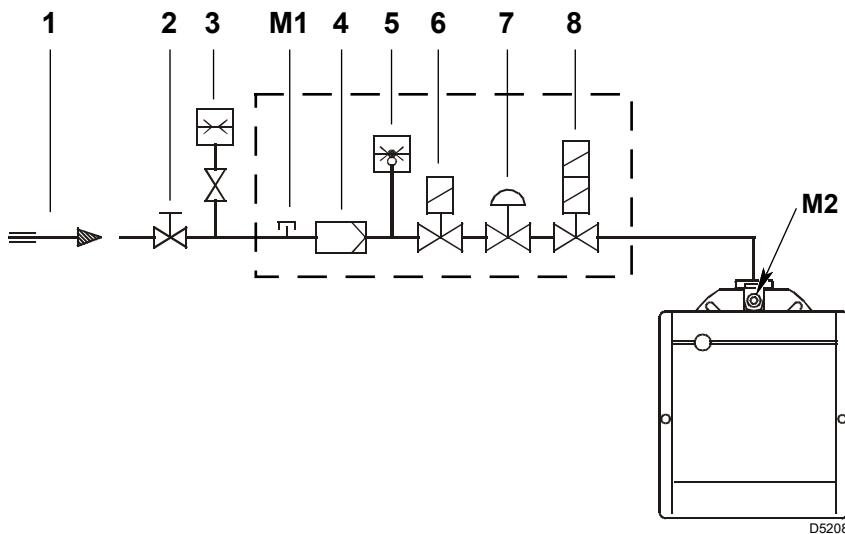

Fig. 16
#### Key (Fig. 16)
Gas pressure measured at test point M2)(Fig. 16 on page 18), with:
- subtract the pressure in the combustion chamber from the pressure of the gas at test point M2)(Fig. 16 on page 18).
Gas pressure at test point M2)(Fig. 16 on page 18)= 10 mbar
To calculate the required gas pressure at test point M2)(Fig. 16 on page 18), with the maximum modulating output at which you want the burner to operate having been fixed:
- Read on the right, column 1, the pressure at the socket M2)(Fig. 16 on page 18).
pressure required at the test point M2)(Fig. 16 on page 18).